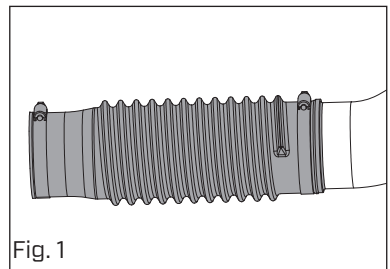

Fig. 1
1. Connect one end of the flexible pipe (15) to the swivel elbow pipe (17) using the supplied hose clamp (14) (fig. 1). Secure the hose clamp (14) using the supplied multi-tool (21), do not overtighten.